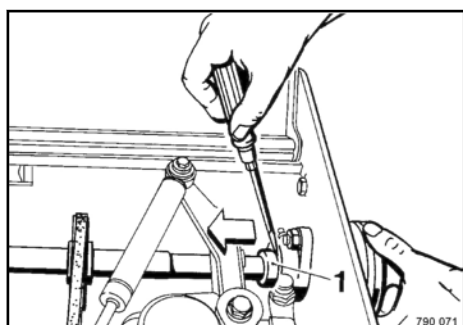

Fig. 57
Press clamping ring (1) ↪ Fig. 57 off the bearing.